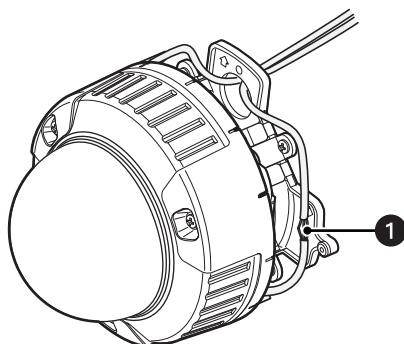

Figure 14. Making Cable Connections
8. Connect the power cord and the video output cable at the side of the mounting base (refer to Figure 14 and *Wiring* on page 47).